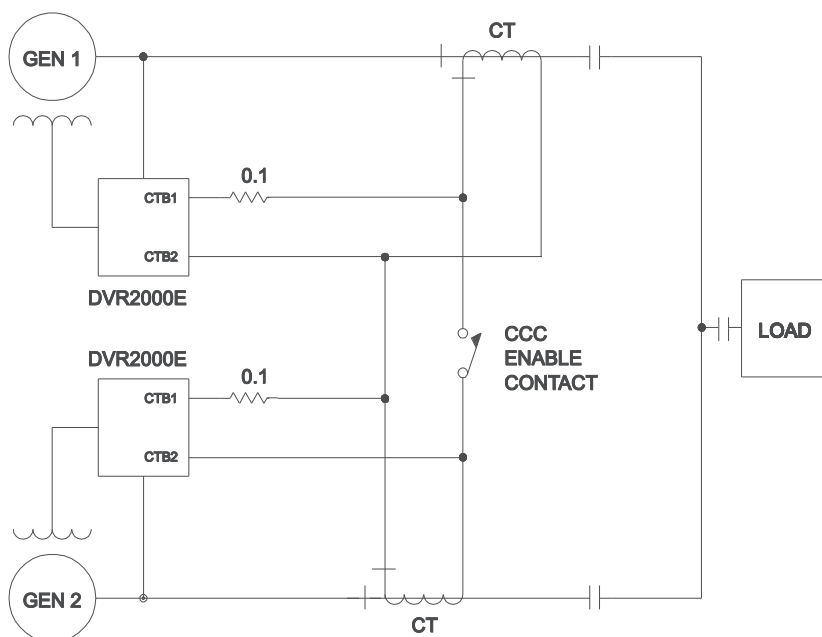

Figure 4-9. Cross-Current (Reactive Differential) Connections for Two Generators
Figure 4-9 illustrates the connection of two DVR2000E devices used in a Cross-Current (Reactive Differential) application. Note that the .1 ohm resistor shown may have to vary. When operating in parallel reactive differential mode (cross current), attention must be paid to the use of the burden resistor shown in Figure 4-9. The burden resistor should have a value approximately 10 times the cross current loop resistance for proper differential operation. The value of 0.1 ohm is a suggested value. The volt-ampere (VA) capacity of the paralleling current transformers should be considered after sizing the burden resistor.